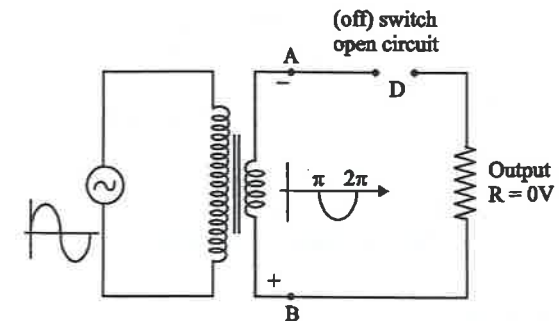

Fig. 3.49
- » In this period, Diode 'D' becomes reverse biased. Then it acts as an open switch. So, there is no output voltage across load. It is shown in fig. 3.49.